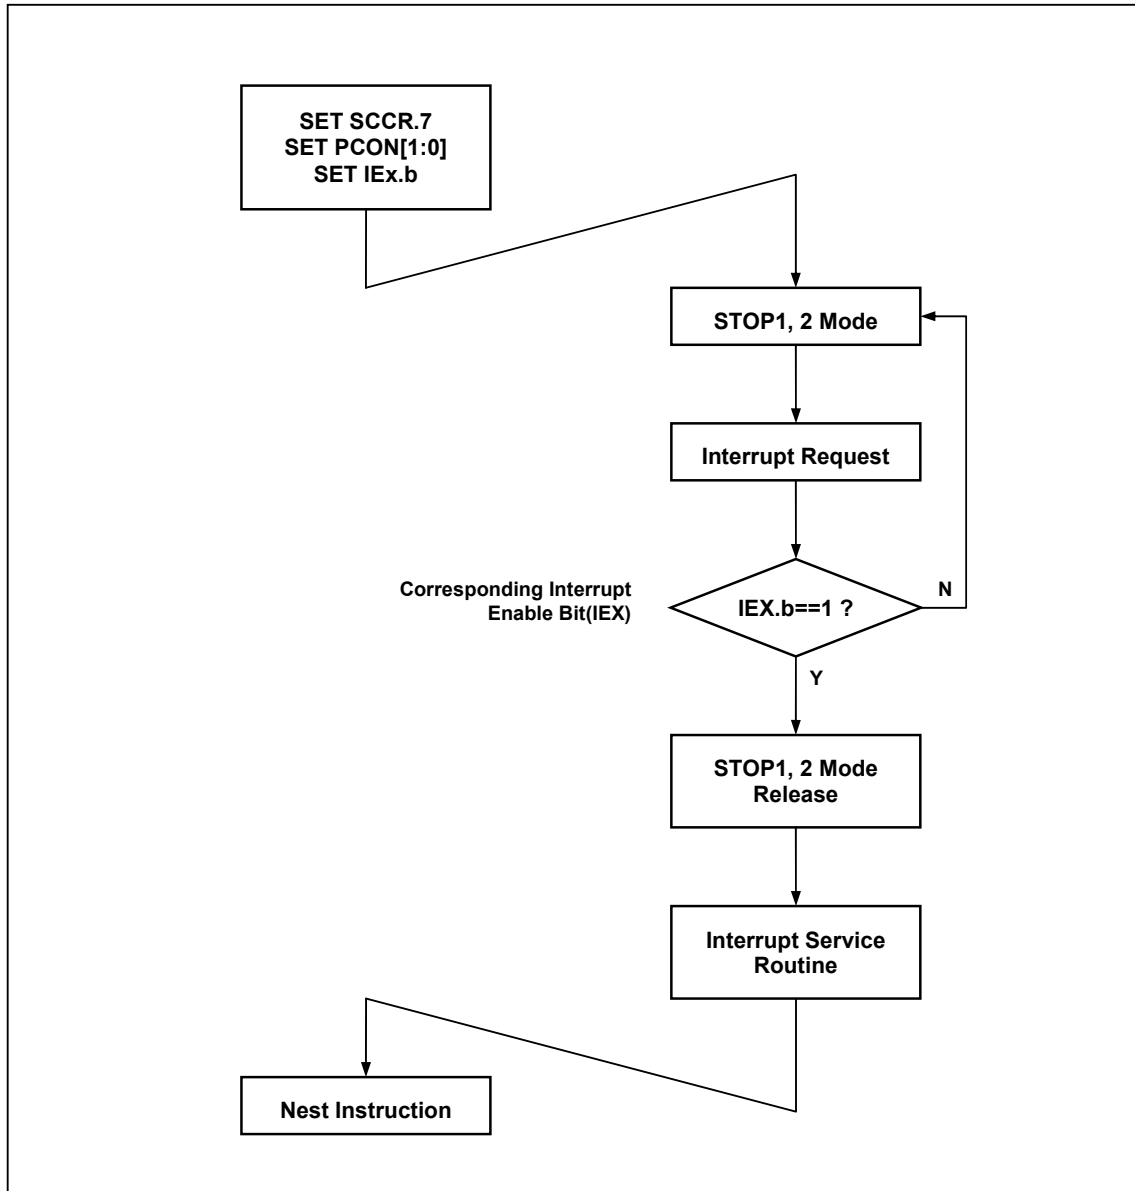

Figure 12-5 STOP1, 2 Mode Release Flow
After STOP1, 2 mode is released, the operation begins according to content of related interrupt register just before STOP1, 2 mode start (Figure 12-5). Interrupt Enable Flag of All (EA) of IE should be set to `1`. Released by only interrupt which each interrupt enable flag = `1`, and jump to the relevant interrupt service routine.